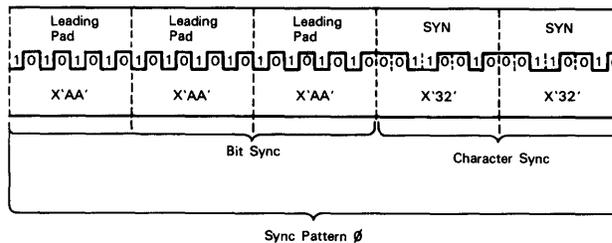

Figure 4-5. BSC Sync Pattern
**BSC SYNC PATTERNS:** Synchronization of data sent between BSC machines is established with a transmitted sync pattern. The sync pattern must be sent at the start of each transmission. This ensures that the receiving station is in step with the sending station. Synchronization of all transmitted data is established by clocking at both bit level (bit sync) and character level (character sync). The sync pattern is normally represented by the symbol (0). (See Figure 4-5.)